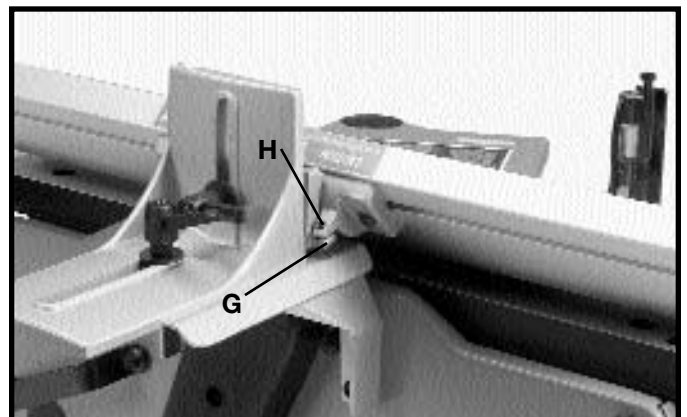

Fig. 29
7. Turn set screw (F) Fig. 29, until it contacts stop (G).